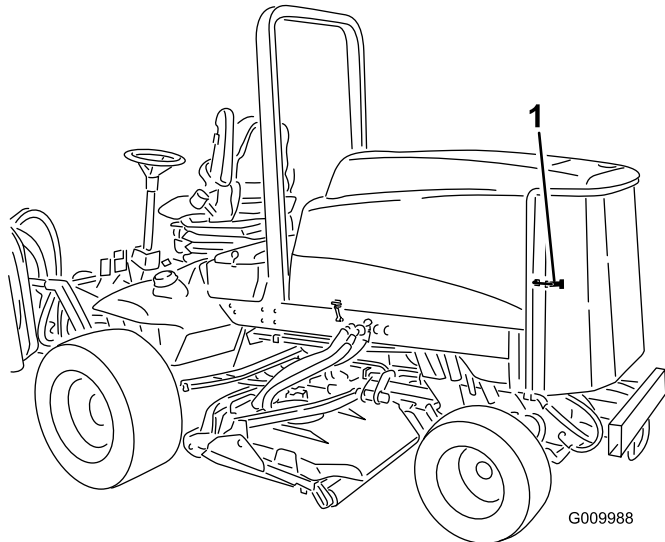

Figure 51
1. Unlatch and swing open the rear screen (Figure 51).